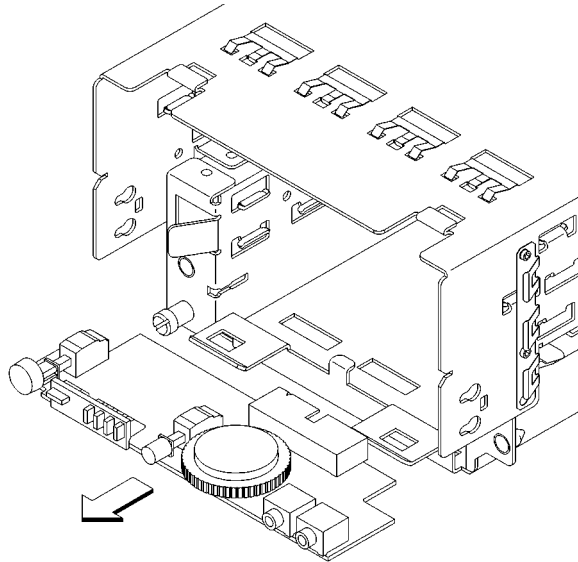

Figure 35
- 1 Grasp the human interface board gently on both sides and slide it straight out. See Figure 35.